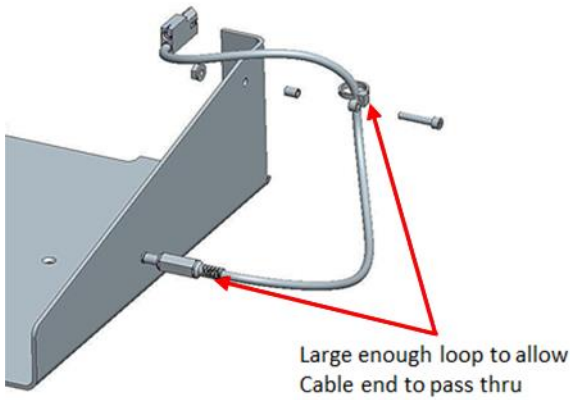

Figure 11: Install DustTrak Power Cable and Strain Relief
2. Install the DustTrak monitor power cable and strain relief shown in Figure 11.